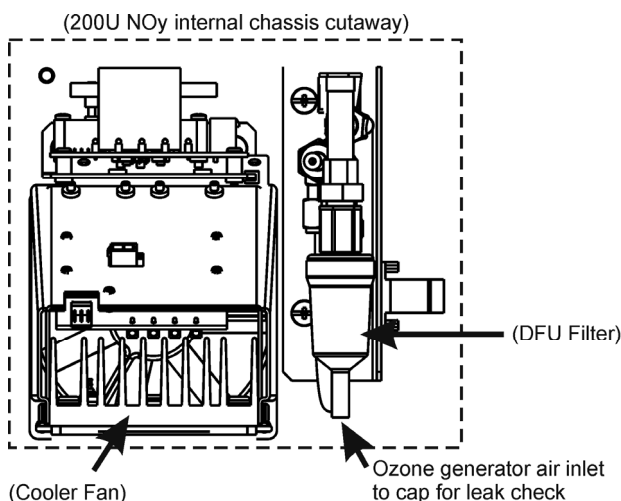

Figure 6 Location of O3 Generator Air Inlet
2. Cap the sample inlet of the external Converter, the BYPASS OUT port of the 501Y, the ozone generator air inlet (located inside the analyzer, Figure 6), and the analyzer rear panel ZERO AIR/SPAN ports (if Z/S valve option present).
2. Disconnect the external Pump from the analyzer's rear panel. Cap the sample inlet of the external Converter, the BYPASS OUT port of the 501Y, the ozone generator air inlet (located inside the analyzer, Figure 6), and the analyzer rear panel ZERO AIR/SPAN ports (if Z/S valve option present), and connect the leak checker to the instrument exhaust port.